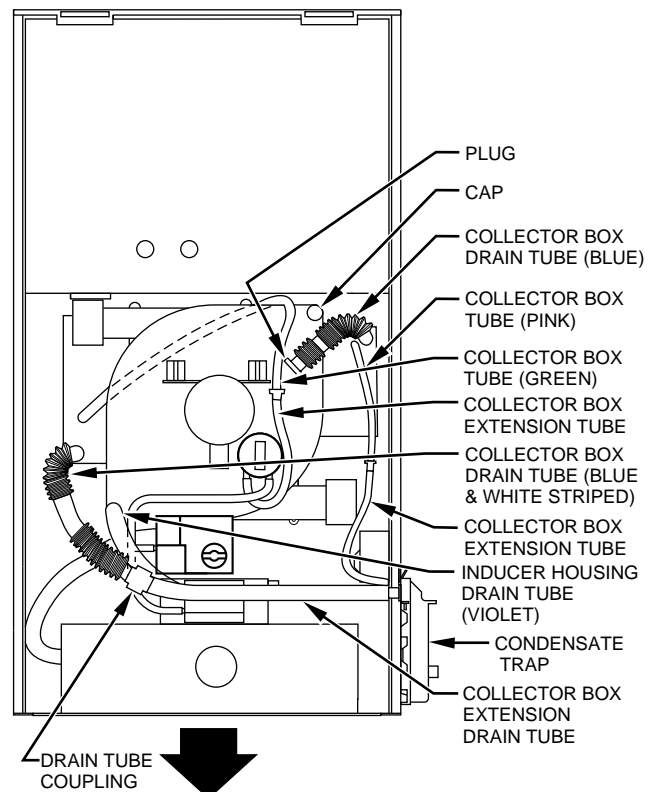

Fig. 8—Downflow Tube Configuration (Right-Hand Trap Installation)
- (c.) Route extended collector box drain tube directly from collector box drain to condensate trap as shown in Fig. 8.
- (a.) Route inducer housing drain tube (violet label) directly from inducer housing to condensate trap as shown in Fig. 8.